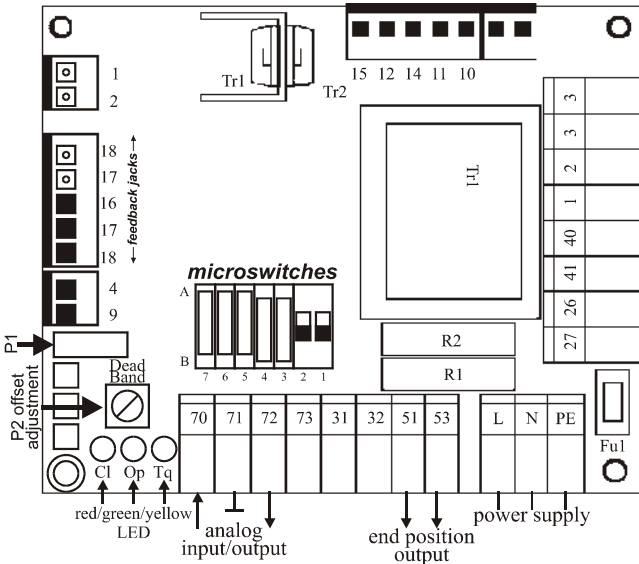
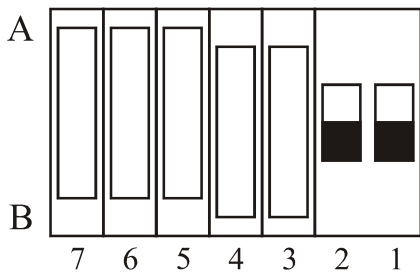

Fig. 4. Printed circuit board of the V5422E
Fig. 5. Microswitch settings for the V5422E at delivery
The V5422E series is equipped with a printed circuit board (see Fig. 4). This board (together with a feedback potentiometer) is situated under the cover, where the angle indicator is likewise located. To access the printed circuit board, remove the cover.
Fig. 5 shows the settings of the microswitches located on the printed circuit board (see Fig. 4) at delivery-time.
The offset of modulating actuators is adjusted at the factory and should not be changed. If you wish to change the offset (using offset potentiometer P2; see Fig. 4), note that an excessively small offset will result in oscillation of the actuator.
6. Using a small screwdriver, adjust the potentiometer P1 (located on the printed circuit board; see Fig. 4) until the valve closes completely.